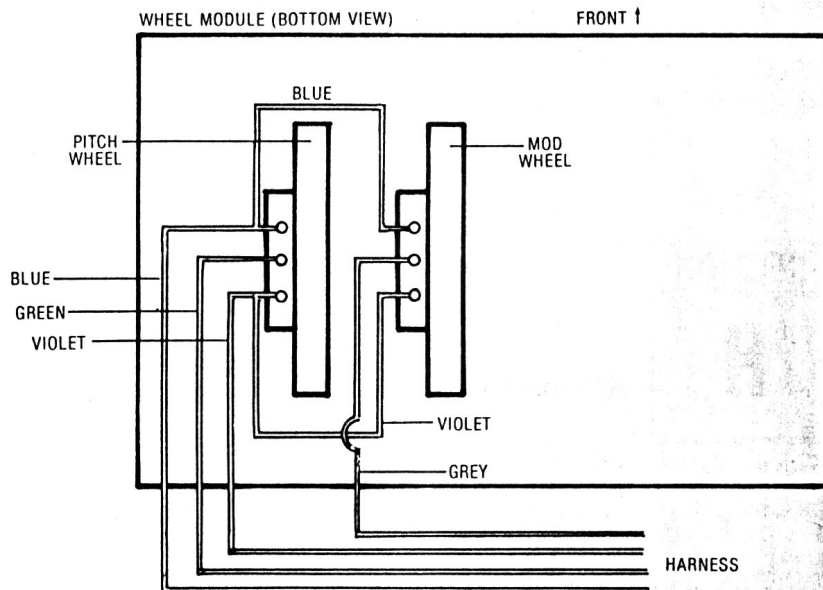

FIGURE 6 - WHEEL MODULE CONNECTIONS
6. Solder the new harness to the wheel module. Refer to Figure 6 for the proper configuration. Reconnect the harness and install new wire ties.